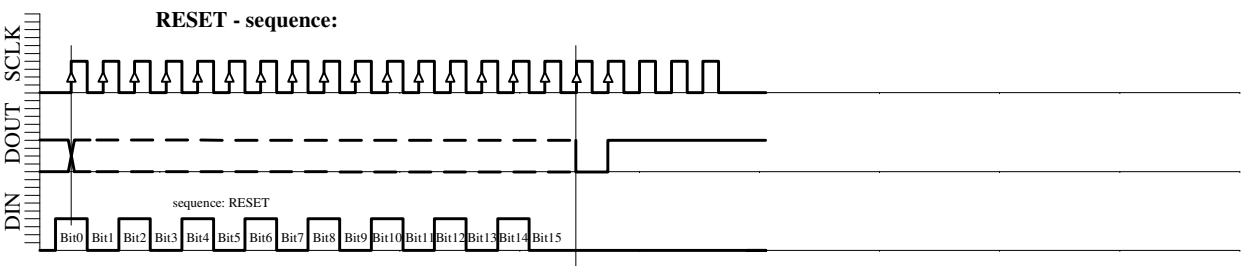

Fig. 6e: RESET sequence (21-Bit)
- RESET sequence (Figure 6e)
The RESET-sequence is special as its unique pattern is recognised by the module in any state. By consequence it can be used to restart if synchronisation between the microcontroller and the MS5536-60C has been lost. This sequence is 21-Bit long. The DOUT signal might change during that sequence (see Fig. 6e). It is recommended to send the RESET sequence before first CONVERSION sequence to avoid hanging up the protocol permanently in case of electrical interference.